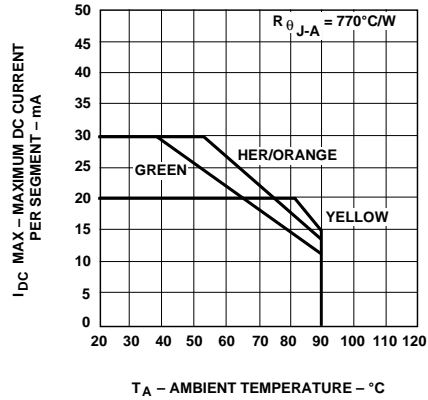

Figure 8. Maximum Allowable DC Current vs. Ambient Temperature.
- Derate above 53°C at 0.45 mA/°C (see Figure 8).
- Derate above 81°C at 0.52 mA/°C (see Figure 8).
- Derate above 39°C at 0.37 mA/°C (see Figure 8).